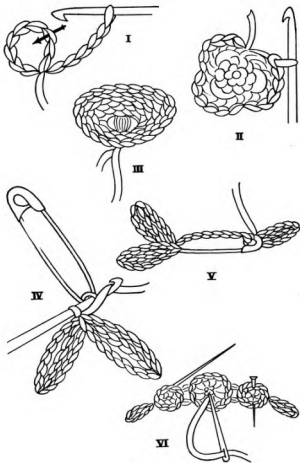

FIGURE 68
*Yarn Flowers* (Figure 68). — Use a medium-size bone crochet hook. Chain nine stitches and join the two ends with a stitch. Chain five more stitches, skip two stitches on the ring, and make a stitch into the third. Chain five more stitches, skip two stitches on the ring, and make a double chain. Stitch into the third. Again chain five more stitches, skip two on the ring, and make a double chain, and stitch into the third. This will make a ring of stitches with three loops of stitches around it. Single crochet around the three loops and draw the thread through at the last stitch, leaving nine inches of thread so that the end of the thread can be drawn through the center-back of the flower (II). Two different shades of one color may be combined into one flower, using the darker shade for the center. Larger flowers may be made by making the center ring larger and the loops in proportion. It is always necessary to have an uneven number of stitches. Buds may be made by double crocheting around the single ring of stitches.